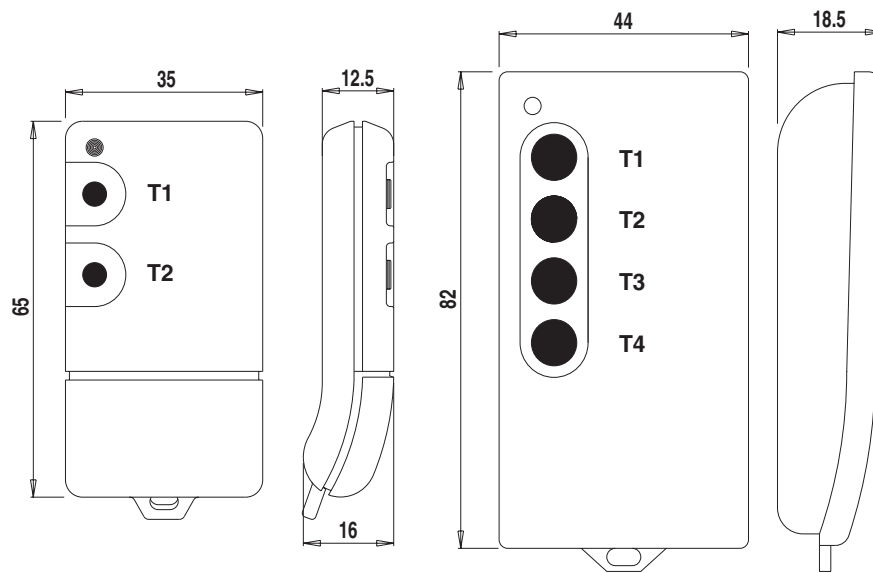

Fig. 2
The receivers are provided with a "JP5" jumper (fig.2) which is used to enable the transmitters to be memorized, in **MANUAL** or **SELF-LEARNING** mode by radio. Having inserted the receiver in the connector provided with the control unit, enter the programming mode by pressing the SW1 button for INTRIC 1E or, in case of INTRIC 2 E, the SW1 button for the CH1 output and SW2 button for CH2 output. This condition is signalled by constant blinking of the DL1 LED. The DL1 LED blinker packs (fig.2), which range from 1 to 6 blinks interrupted by a pause of about 1 second, indicate the different learning functions (see table). The receiver comes out of the programming mode if no operations take place during the subsequent 90 seconds.
- Send the transmitter secret code. In the case of TRC1-2, press the P1 hidden button (fig.2). In the case of TRC4, the P1 button function corresponds to pressing the 4 transmitter buttons simultaneously or, after opening the battery compartment, bridging the two P1 points with a screwdriver (fig.2).
- Send the secret code of the transmitter already memorised. In the case of TRC1-2 transmitters, press the hidden P1 button (fig.2). In the case of TRC4, the P1 button function corresponds to pressing the 4 transmitter buttons simultaneously or, after opening the battery compartment, bridging the two P1 points with a screwdriver (fig.2).